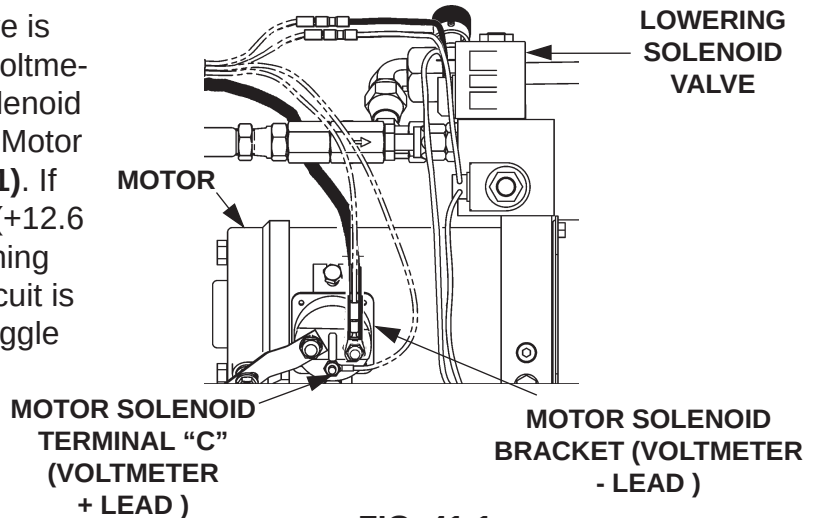

FIG. 41-1
1. Check if Lowering Solenoid Valve is constantly energized. Connect voltmeter negative (-) lead to Motor Solenoid bracket and positive (+) lead to Motor Solenoid terminal "C" (FIG. 41-1). If voltmeter reads battery voltage (+12.6 Volts DC minimum) without pushing the toggle switch, the control circuit is operating incorrectly. Check if toggle switch, wiring or coil are faulty.